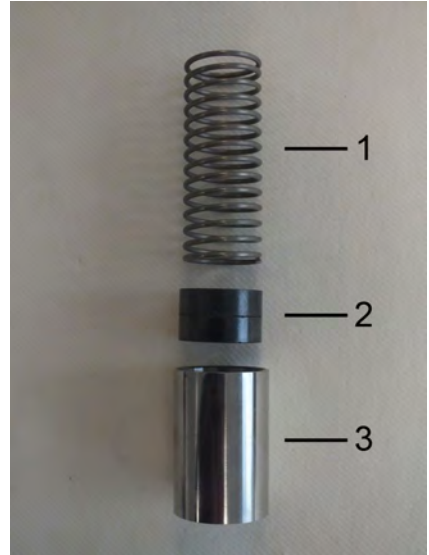

Fig. 49: Spring, magnets and float
12. ▶ The inner parts of the flow monitor consist of the spring (Fig. 49/1), magnets (Fig. 49/2) and float (Fig. 49/3).